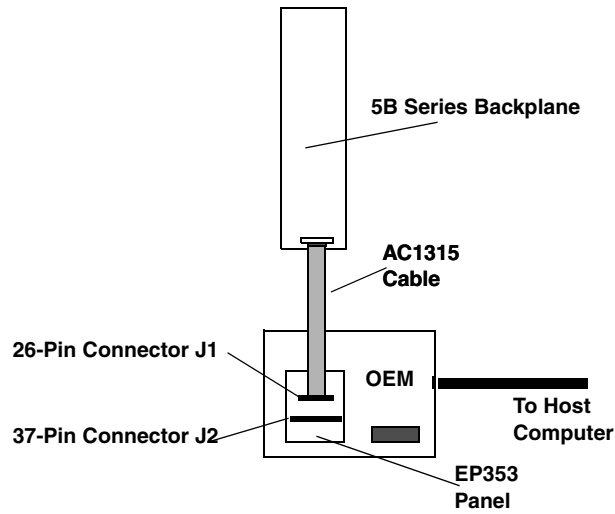

Figure 35: Connecting the AC1315 Cable to the 5B Series Backplane
2. Plug the other end of the AC1315 cable into the 26-pin connector on the 5B Series backplane, as shown in Figure 35.